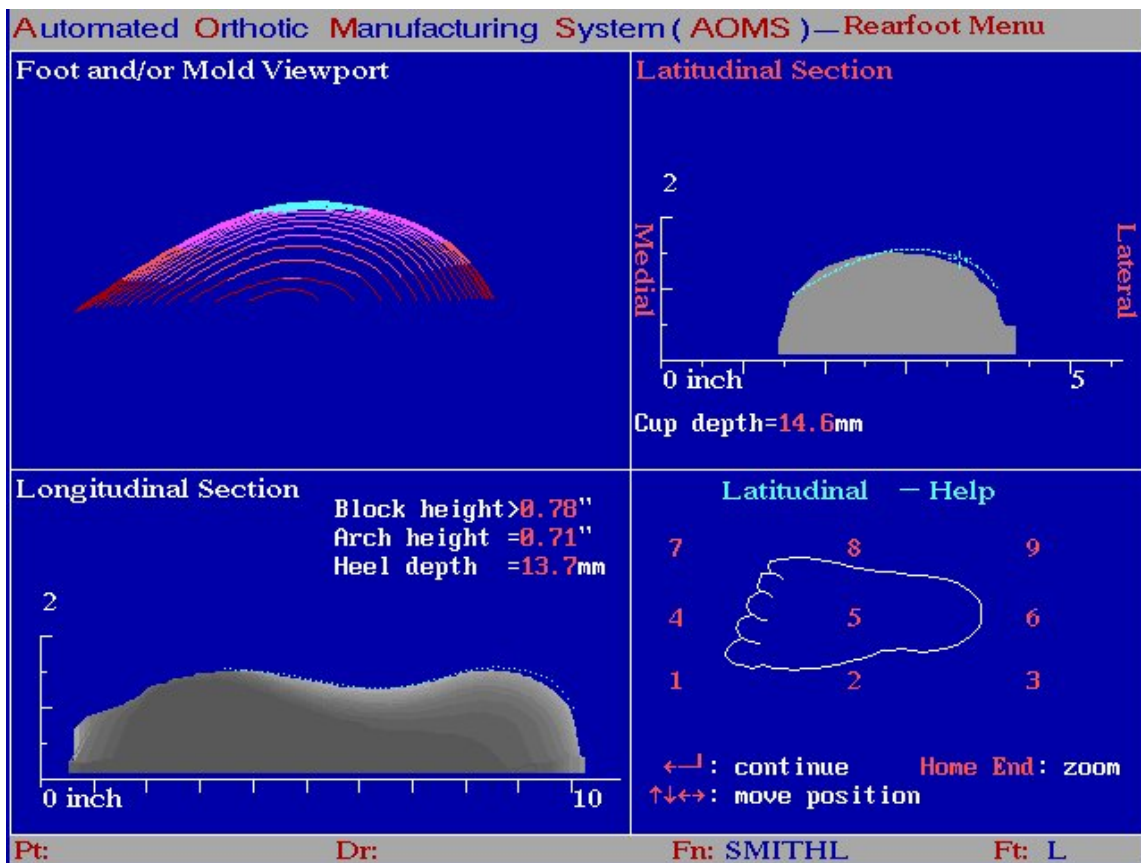

Figure 2: Medial Heel Skive in AOMS
To make the Kirby Skive in AOMS, go to cast correction software. Highlight the ‘Latitudinal Section’ and place the cursor at the medial side of the heel. Jog the curve down into the foot (normally forbidden) from the medial side. Make sure you also do the similar thing on the other control line (D) of the heel (press Enter to access it). Figure 2 illustrates a scenario that Kirby Skive can be achieved. Note that the shape of heel at the medial side is pushed down and into the foot. It is not precisely a duplication of Kirby Skive made manually. However, the effect is the same, i.e. to post the heel up intrinsically at the medial side.